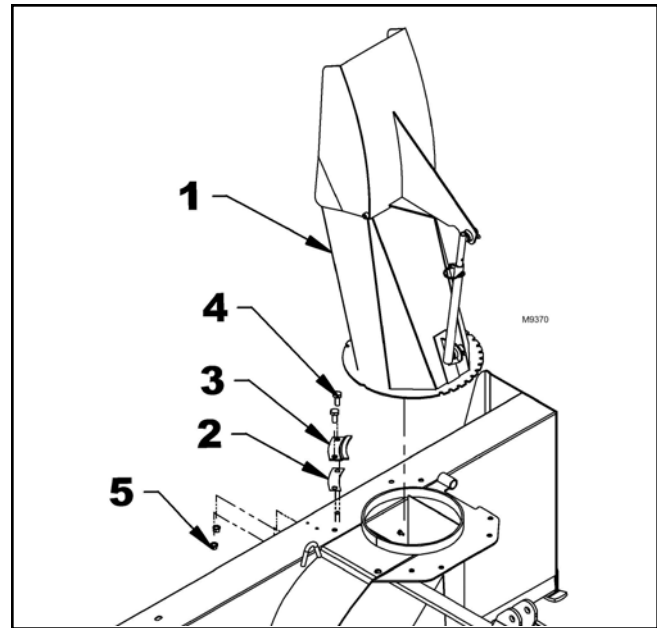

Figure 18. Chute Installation
2. Insert the 1-5/16" plastic bushing (item 4) in the welded tube of the snow blower (item 5).
3. Place the worm support (item 2) and the support spacer (item 10) under the snow blower's left upper plate (item 6).
4. Figure 18: Apply grease on the chute base and around the snow blower chute ring. Install the chute (item 1) with the four retaining plates (item 3), four spacers (item 2) and eight 1/4 NC x 3/4" bolts and flanged nuts (items 4, 5). Tighten securely.